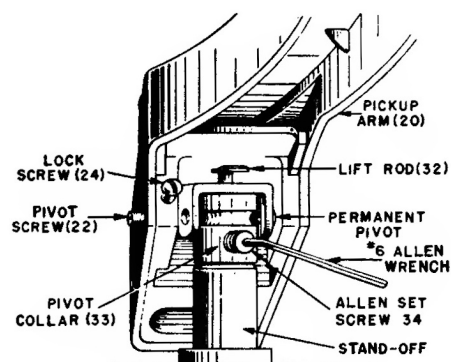

Figure 5. Pickup Arm Mounting Detail.
1. Insert the 45 RPM centerpost (2); set the speed change knob (19) to the "45" position; move the reject knob (42) to the "Rej" position and then rotate the turntable (clockwise) by hand JUST to the point where the pickup arm stops moving in toward the centerpost and starts moving downward. **DO NOT ROTATE THE TURNTABLE BEYOND THIS POINT.**
2. Insert a #6 Allen wrench into the Allen set screw (34) on the pivot collar (33) as shown in Figure 5. Do NOT loosen the Allen set screw.
(See Figure 5)